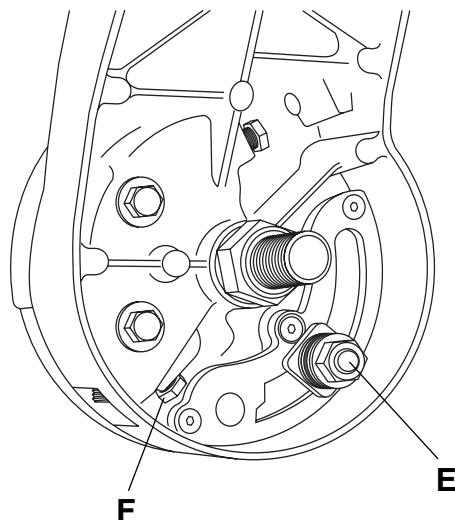

Figure 2. Left 45° Bevel Adjustment
2. Place 17mm open-end flat wrench on bolt head "E" (Figure 2).